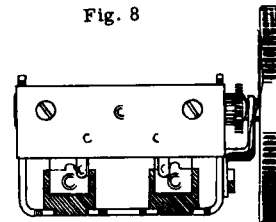

Fig. 9
- () Start a 6-32 set screw in the hub of the tuning drum. Place the drum on the tuning condenser shaft and tighten the set screw just enough to hold the drum on the shaft. See Figure 9.